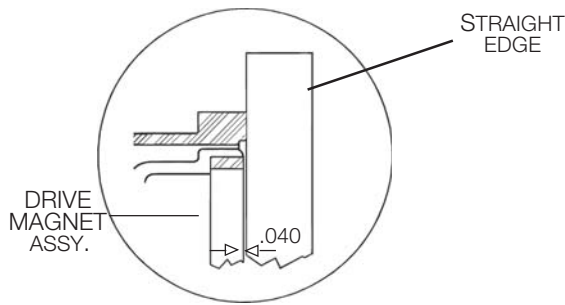
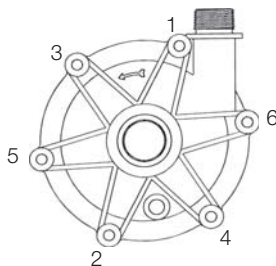

Figure 2
Figure 3
2. Remove screws and washers (items 9A, 9B & 9C) from impeller housing (item 1) and remove pump assembly from motor adapter (item 5).
4. Install the motor adapter (item 5) onto the motor with the access holes top and bottom. Secure with supplied hardware (items 10A, 10B, and 10C). On 63 frame pumps, from the motor side, insert the supplied gray spacer into the base of the motor adapter and secure both to the motor.
5. **For 63 frame pumps** - Screw the cone point drive magnet assembly setscrew (item 6B) in so that it protrudes slightly into the drive bore. Align the protruding setscrew point with the key slot on the shaft adapter and slide the drive magnet assembly (item 6) on. Adjust the drive magnet assembly (item 6) so that it is 1.016 mm (.040 +/- .005) below the face of the motor adapter (see figure 2) and tighten both setscrews with a 5/32" Allen wrench to 7.9 N.m (70 in. lbs.).
**For 71 and 80 frame** - Align the cone point set screw (item 6B) on the motor shaft and slide the drive magnet assembly (item 6) onto the motor shaft. Adjust the drive so that it is 1.016 mm (.040 + or -.005) below the face of the motor adapter (see figure 2). Tighten both setscrews with a 5/32" Allen wrench to 7.9 N-m (70 in-lbs.).
6. Place the impeller assembly (comprised of items 2 and 3) in barrier (item 4). Grasping the barrier at opposite bolt tabs, carefully lower the barrier assembly into the motor adapter/drive assembly. Line up the tabs of the barrier between the tabs on the motor adapter to avoid pinching fingers. Once seated, rotate the barrier until bolt holes line up.
7. Install the o-ring (item 7) on the barrier. Lubricate the o-ring with a compatible lubricant to facilitate installation.
8. Place the impeller housing (item 1) on the barrier being careful not to dislodge the o-ring.
9. Align mounting holes and install 6 mounting screws and washers (items 9A, 9B & 9C) from hardware package. Hand tighten screws using pattern shown in Figure 3.
- 56C pumps** - Insert the barrier (item 4) into the motor adapter (item 5). Align the barrier tabs with the motor adapter bolt holes and press/pop into place. Install the impeller assembly (items 2 and 3) into the barrier. Lubricate the housing o-ring (item 7) with a chemically compatible lubricant and install. Carefully place the impeller housing (item 1) onto the barrier, lining up the discharge with a set screw access hole (top) in the motor adapter. Be careful not to dislodge the o-ring. Install the six bolts and washers (items 9A, 9B, and 9C) and hand tighten the screws following the pattern shown in figure 3.